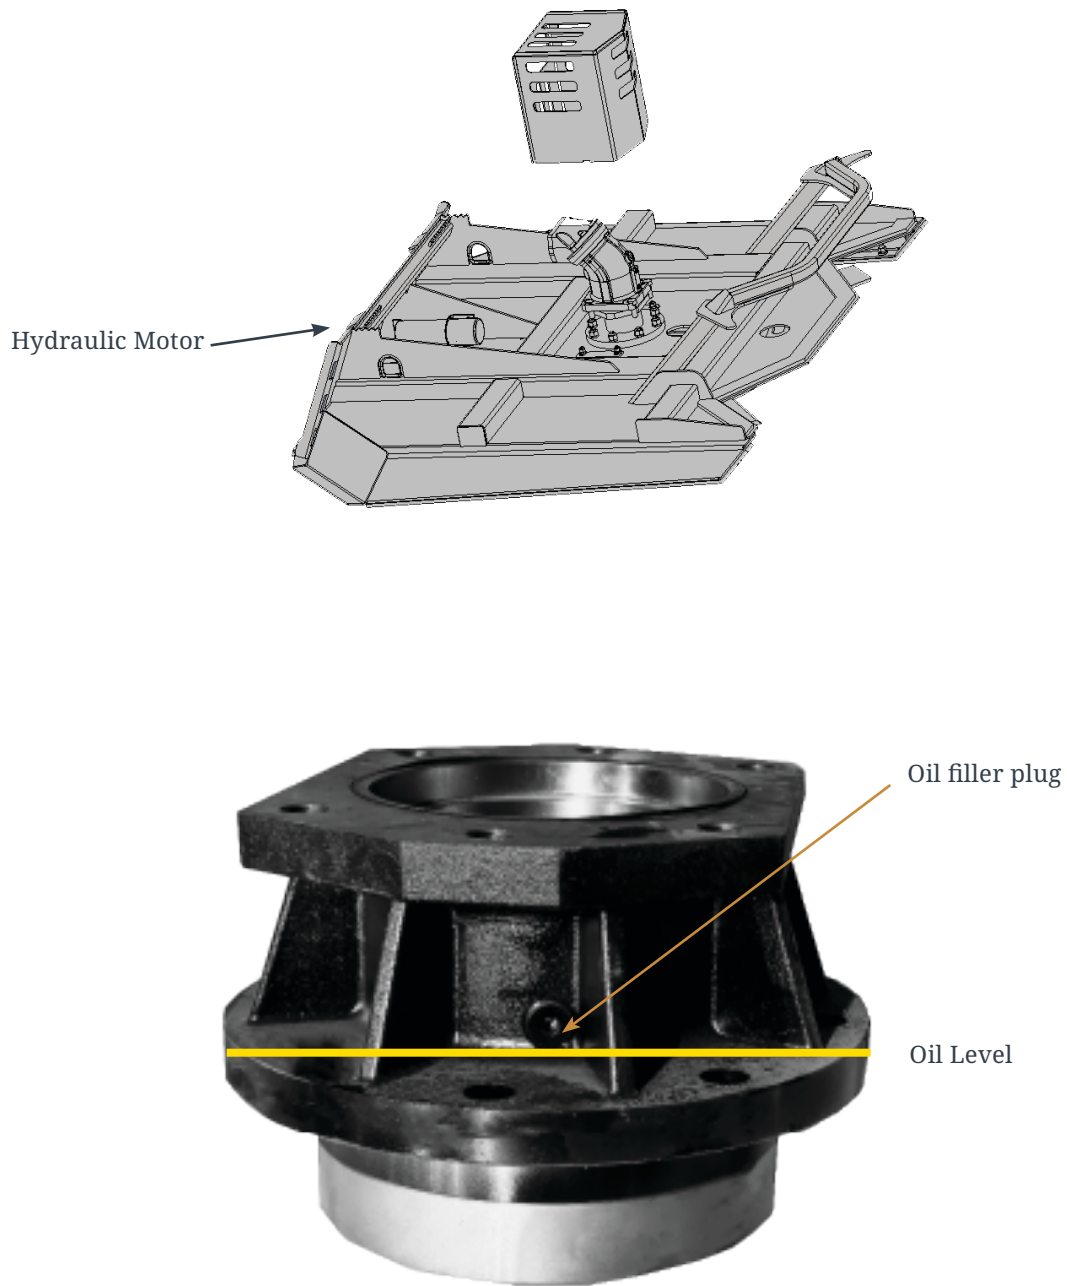

FIGURE 3.8A BEARING HOUSING
1. Remove the motor cover to access the bearing housing. The bearing housing is located below the hydraulic motor. See figure 3.8a, right.